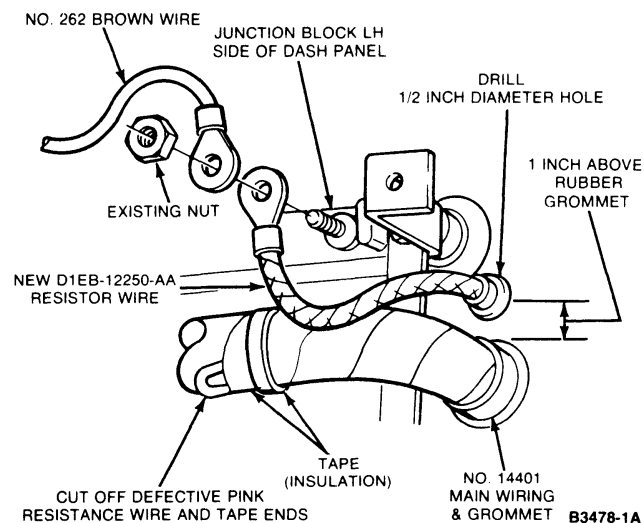

FIG. 20 Resistance Wire Hole Location
2. Working in the engine compartment, carefully drill a one-half inch hole through the dash panel in the location shown in Fig. 20. Be careful not to contact the No. 14401 harness with the drill.